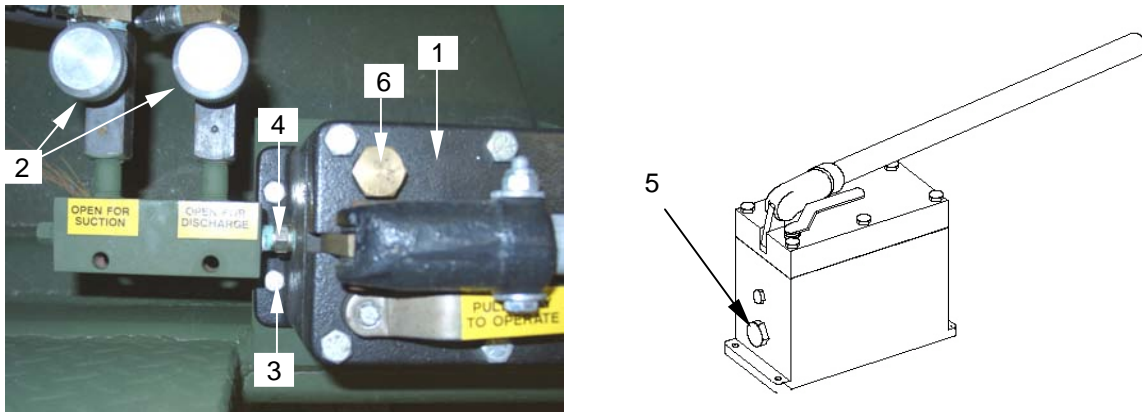

Figure 4. Replacing Hydraulic Pump
4. Remove drain plug from pump and drain hydraulic fluid from pump through the drain port (**figure 4, item 5**). (Fill port (**figure 4, item 6**) must be open.)
5. To replace a hydraulic hand pump (**figure 4, item 1**), disconnect the hoses from the elbow fittings and piston valves as described in step 1., above. Open control knobs (**figure 4, item 2**).
6. Remove the hand pump mounting bolts (**figure 4, item 3**) from the pump base.
7. Disconnect the manifold (**figure 4, item 4**) (leaving the control knobs, elbow fittings, hose nipples and breakaways connected) from the pump.
8. Reinstall the manifold (**figure 4, item 4**) onto new hand pump. Reinstall drain port plug (**figure 4, item 5**) and fill hand pump with hydraulic fluid through fill port (**figure 4, item 6**).